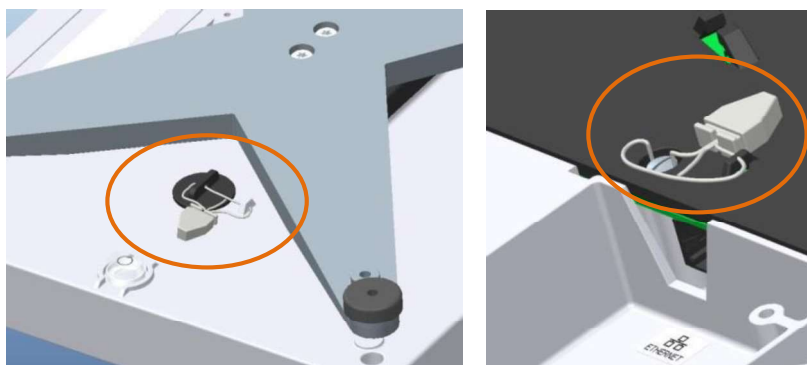

Figure 4-58: BC-60, -6L, -30 and -3L Sealing
1. The holding screw for the PCB cover on the bottom of the scale (left, in Figure 4-58).
2. The green cap and tab hole on the housing scale (right, in Figure 4-58).